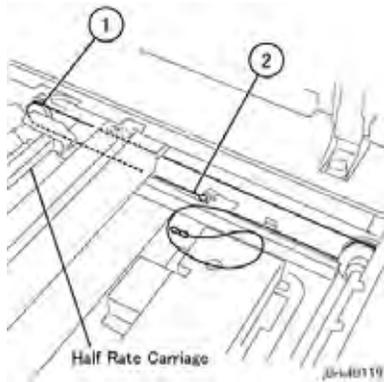

Figure 10 Installing Ball End
4. Install the ball end of the Carriage Cable (Figure 10)